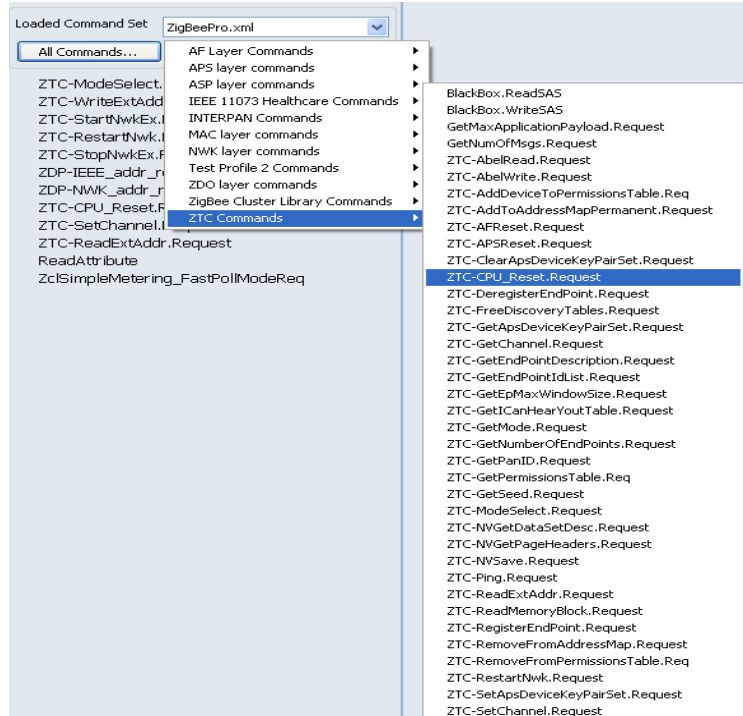

Figure 2-29. Selecting a Command from the Command Set
1. Select the command from the hierarchical pop-up menu that opens when the “All Commands...” button is clicked as shown in Figure 2-29.